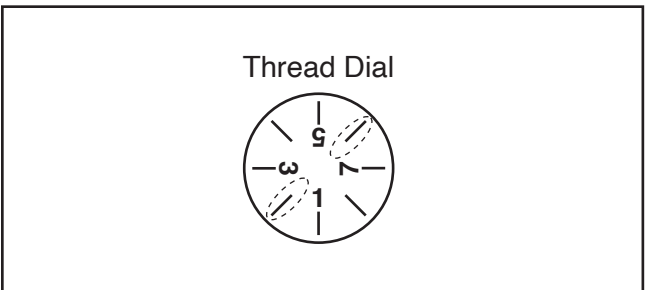

Figure 104. Using thread dial for 9.5 or 11.5 TPI threads.
9.5 or 11.5 TPI: For threading 9.5 or 11.5 TPI, use 2 or 6 on the thread dial (see example in **Figure 104**).